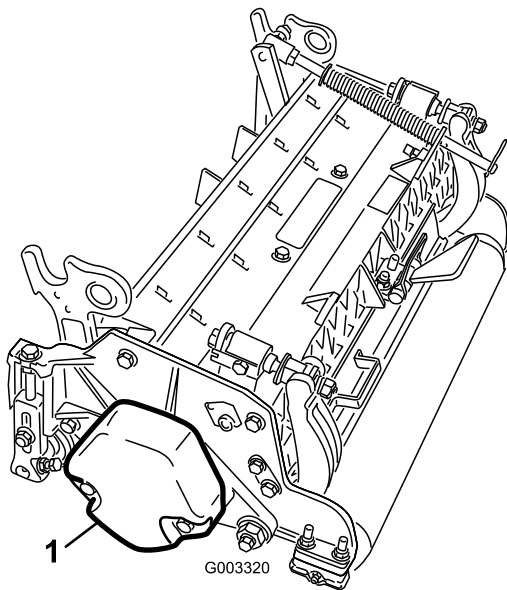

Figure 6
1. On the #2 and #4 cutting units, remove the 2 cap screws securing the counter weight to the left end of the cutting unit. Remove the counter weight (Figure 6).